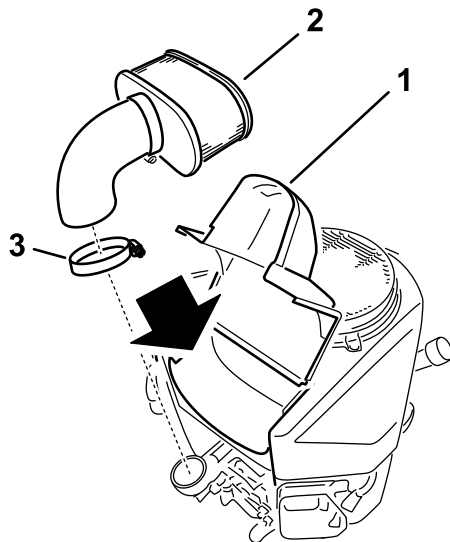

Figure 30
4. Loosen the hose clamp and remove the paper element (Figure 30).